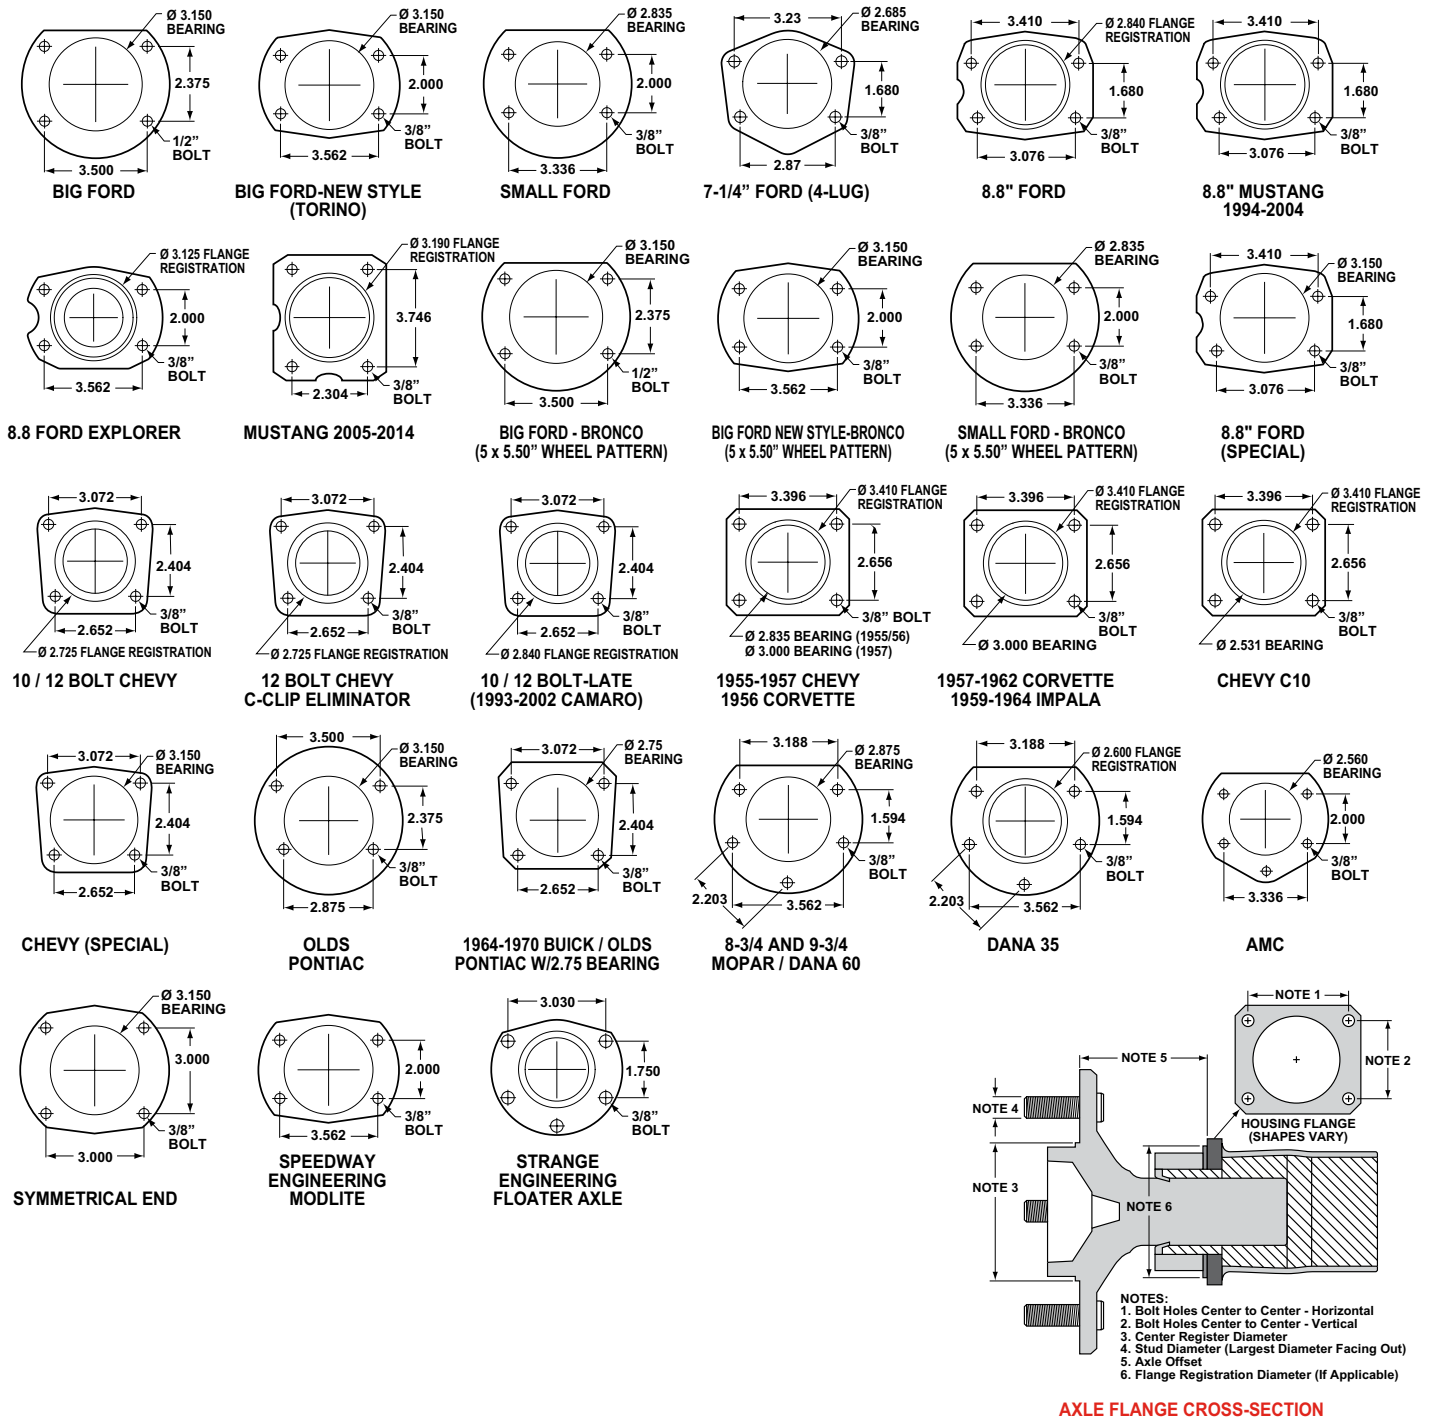

Figure 6. Rear Housing W/Flange Chart and Axle Flange / Offset Cross-Section
- Make sure this is the correct kit to match the axle housing flange, not necessarily the rear end make. Many times aftermarket manufacturers put a different make of flange on the stock rear end housing (see Figure 6). Example; Big Ford rear ends with Olds-Pontiac flanges, therefore, an Olds-Pontiac rear disc brake kit would be the correct kit to order.
- Bearing outside diameter (see Figure 6).
- Housing flange mounting pattern to pattern in new bracket (see Figure 6).
- Offset dimension from wheel side of axle flange to wheel side of housing flange (see Figure 6, lower right hand corner). This dimension is critical to ensure proper alignment of the rotor to the caliper, and should match offset given in the kit description on the cover page.